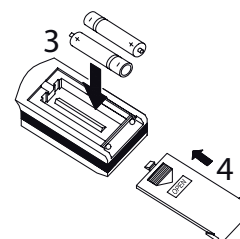

Fig. 2
3. Insert two new AAA1.5V dry batteries, paying close attention to their polarity. (Fig. 2)
4. Reattach the back cover. (Fig. 2, procedure 4)